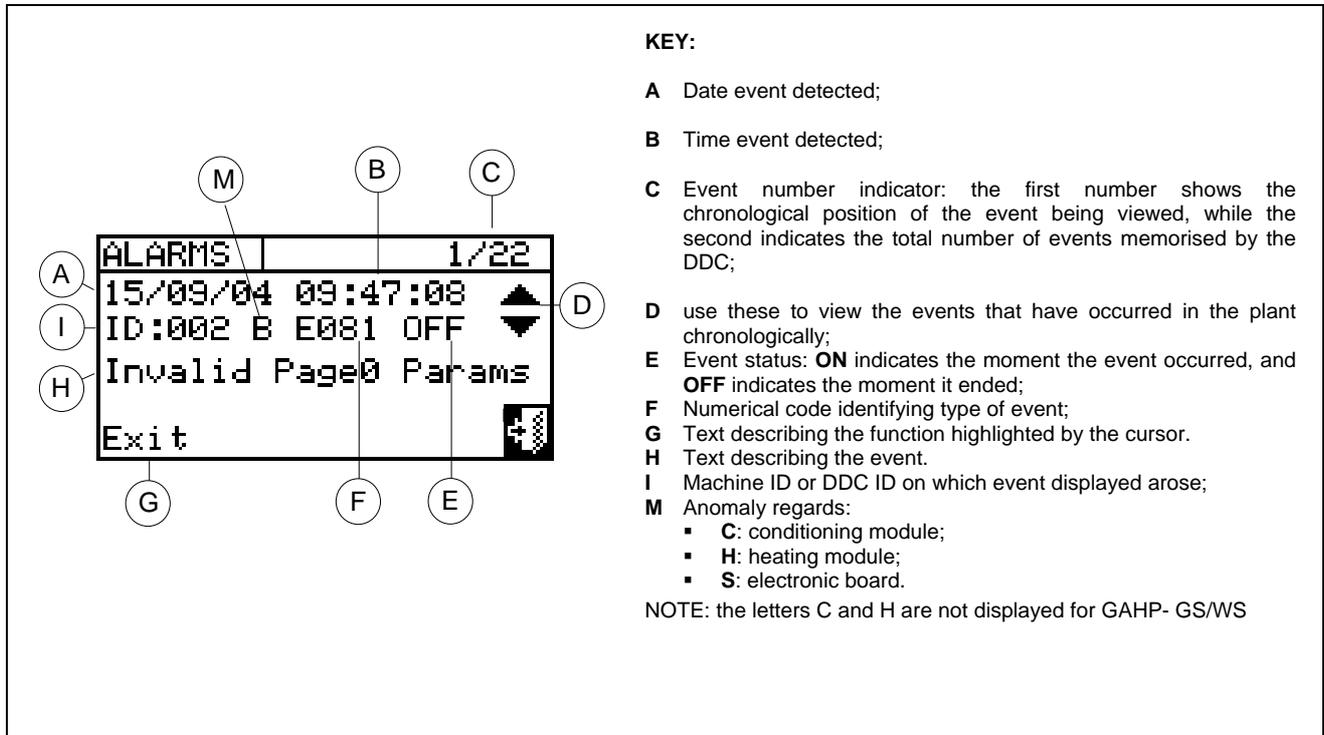

Figure 33 – EXAMPLE OF EVENT HISTORY MENU SCREEN
- 4 - Position the cursor on the vertical scroll arrows (see detail “D” in Figure 33) to scroll through the events, from latest to earliest.